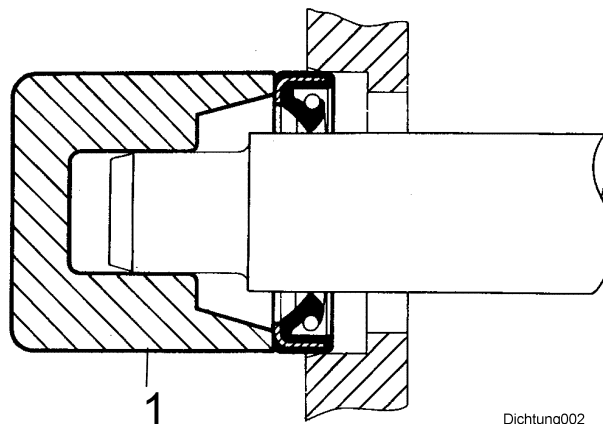

Fig. 3
- Lubricate the outer rim 1 (Fig. 3) of the seal and press it flat on the housing seat.
*If possible, use a "bell" 1 (Fig. 3), to make sure **that the seal will not skew**. In some cases it may be advisable to assemble the seal into the housing first, before sliding it over the shaft. Under no circumstances should the full weight of the shaft rest on the seal.*